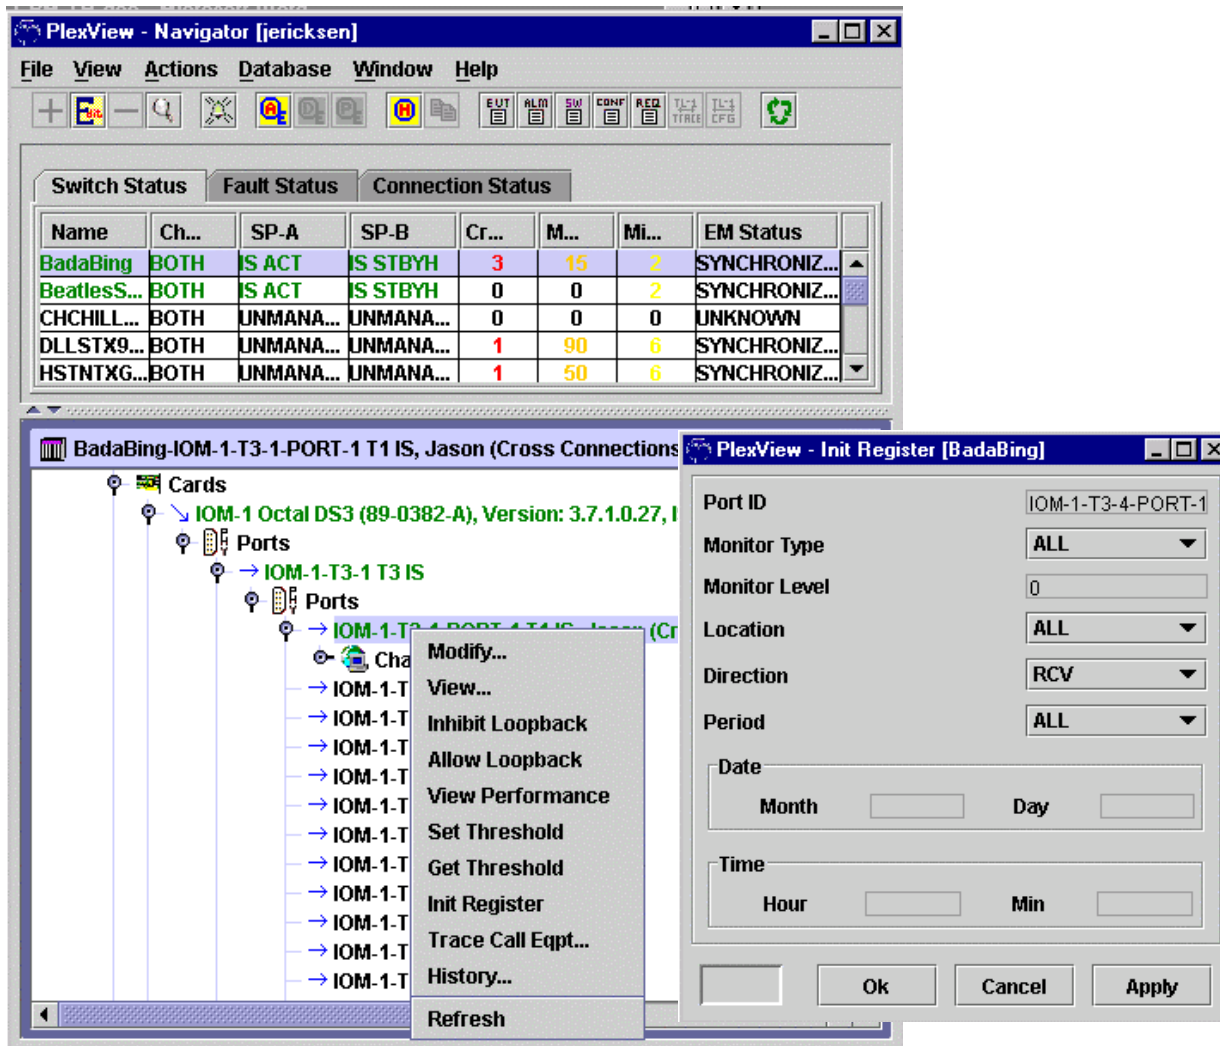

Figure 4. Modify T3 PM Thresholds
8. Initialize one or more storage registers or event counters associated with specific T1 ports in the Plexus 9000. Double-click *Switch*, *Switch name*, *Cards*, desired IOM, *Ports*, desired port, and *Ports*. Right-click desired port, select *Init Register*. Make required changes and then click *Ok* or *Apply*. See Figure 4.